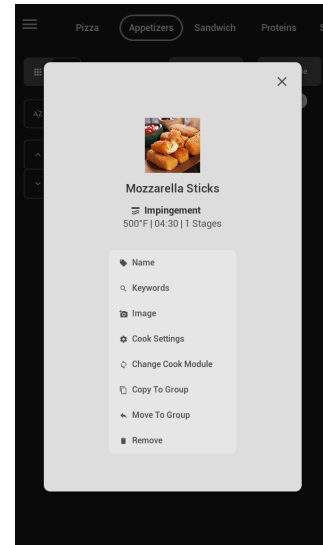

Figure 34: Edit Recipe Options
3. Select an option (Figure 34, above).